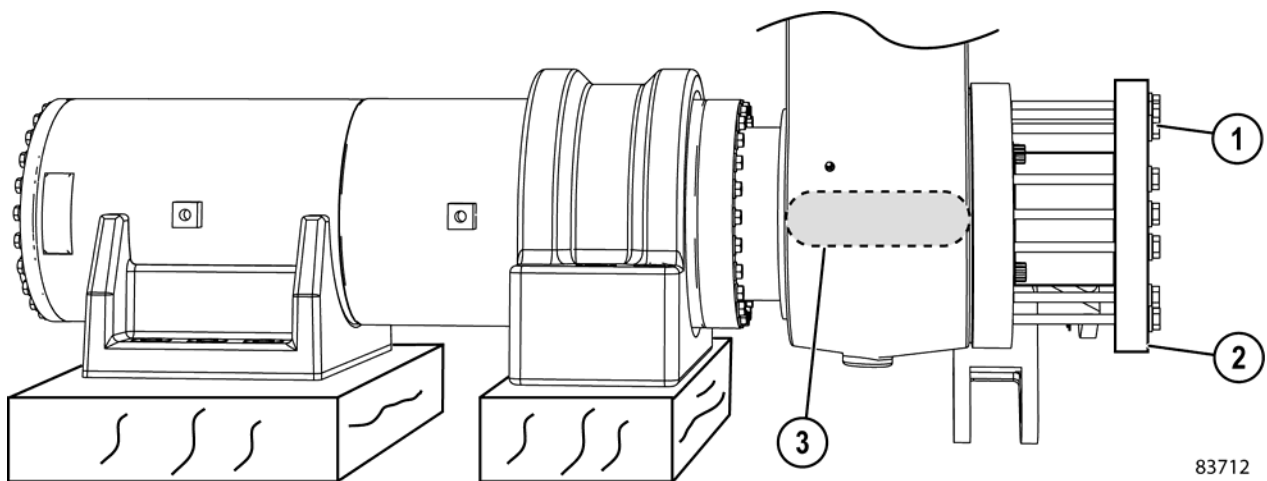

FIGURE 3-6. PUSHER TOOL INSTALLATION
5. If the specified torque is reached and the parts have not separated, slightly loosen the cap screws and slowly and uniformly apply heat to the spindle as shown (3, Figure 3-6). Heat must be applied in two locations 180 degrees apart. Allow heat to penetrate into the spindle. Reapply heat as required. **Do not exceed 454 °C (850 °F) anywhere on the spindle.**